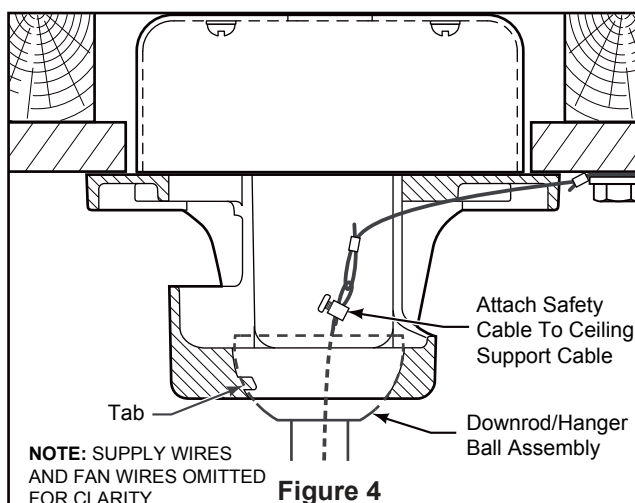

Figure 4
4. Slide downrod into the downrod support on top of the motor housing assembly. Install the clevis pin by aligning the holes in the downrod support with holes in the downrod. Secure clevis pin with hairpin clip. Install and tighten the two previously removed set screws with nuts in the downrod support. (Figure 4)
- ☐ 4. Carefully lift the fan and seat the downrod/hanger ball assembly onto the hanger bracket that was just attached to the outlet box. Be sure the groove in the ball is lined up with tab on the hanger bracket. (Figure 4)
- ☐ 5. Attach the safety cable to ceiling support cable. Slide cable clamp and washer onto safety cable (from fan). Place the end of cable through the loop of ceiling support cable. Pull as much cable through loop as possible. Feed end of cable into clamp hole and firmly tighten screw. (Figure 4)
3. Connect wires using connectors as shown in Figure 4.